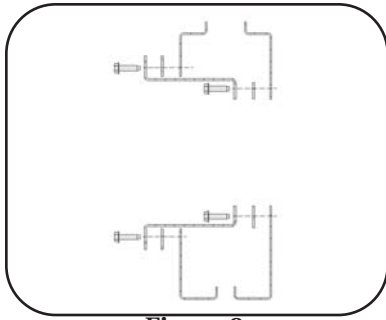

Figure 8
8. As illustrated in Figure 8, insert 3/8" self-tapping screws in each hole from the flume box into the basin wall and tighten